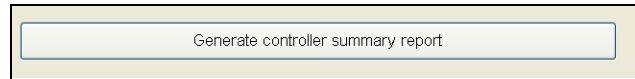

Figure 28.0.10
- Next click on the Generate controller summary report button (Figure 28.0.10)